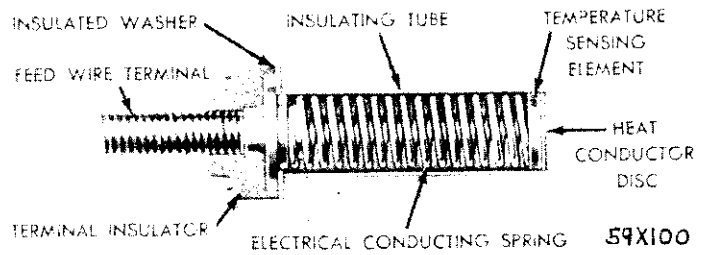

Fig. 59—Engine Temperature Sending Unit
**c. Engine Temperature Sending Unit (Fig. 59)**